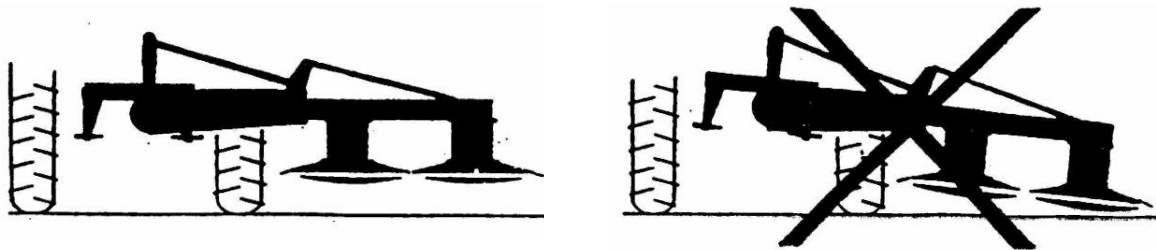

Fig. 6. Correct setting of the mower.
- Set up the length of the upper pull rod in such a way that the drums in the work position are parallel to the base or slightly sloped forward. In order to avoid fodder lost due to dual cutting, never slope the machine backwards. Set up the bottom balance lever of the tractor in such a way that the mower is positioned as shown in Fig. 6.